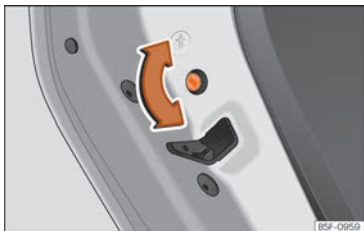

Fig. 99 Childproof lock on the left hand side door.
- With the door open, rotate the groove in the door using the ignition key, clockwise for the left hand side doors »» Fig. 99 and anti-clockwise for the right hand side doors.
- With the door open, rotate the groove in the door using the ignition key, anti-clockwise for the left hand side doors »» Fig. 99 and clockwise for the right hand side doors.